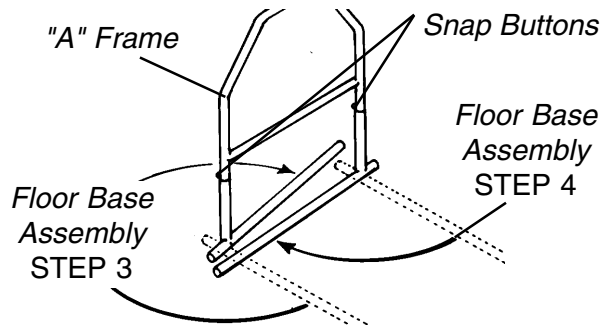

FIGURE 3 - STORING FLOOR BASE
STORING FLOOR BASE (FIGURE 3)
- Depress one (1) snap button on floor leg assembly and lift UP on the "A" frame until the snap button clears the top of the floor leg assembly.
- Rotate one (1) leg of the floor base assembly 270° clockwise away from the other leg as shown in FIGURE 3.
- Rotate the remaining leg of the floor base assembly 90° clockwise towards the other leg as shown in FIGURE 3.